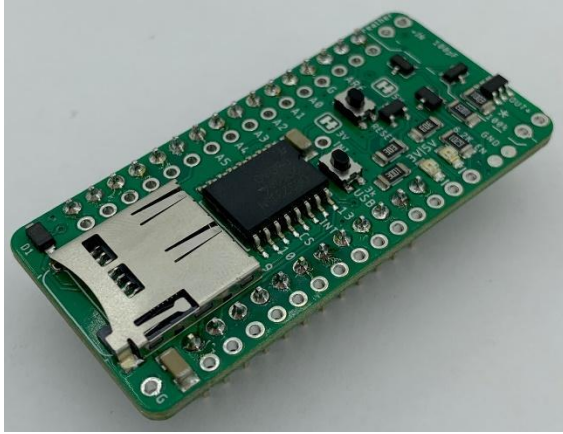

Figure 13: Top of assembled Hypnos PCB with male headers attached (left), and male and female headers attached (right).
1. Insert the short side of the male headers from the back side of the board into the through holes labeled Feather starting with the holes closest to the end with the microSD socket (Figure 13, left). Flip over the board and solder each pin into place.
2. Insert the pins of the female headers into the through holes on the PCB labeled control from the top side (Figure 13, right). Flip over the PCB and solder each pin into place.